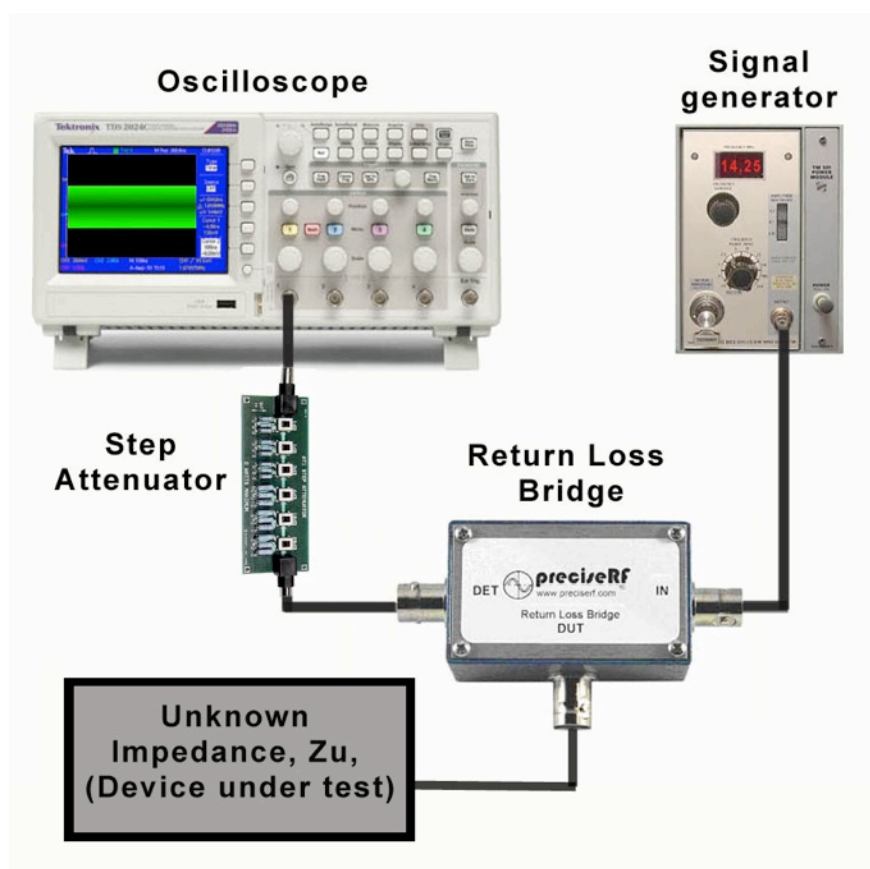

Figure 2. Return loss measurement setup
1. See Figure 2 above. Apply the output of the signal generator to the RF INPUT port of the RLB. It may be necessary to attenuate the generator output to avoid overloading the device under test.